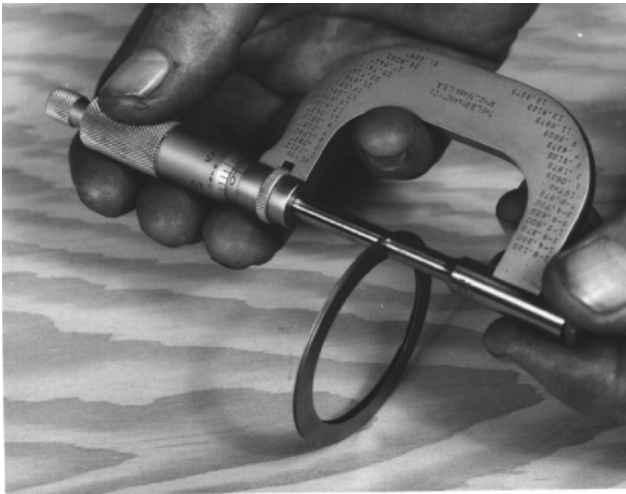

FIGURE 15
15. With a micrometer, FIGURE 15, page 33, measure the thickness of shaft shim sets established in Steps 6 thru 8. Be sure shims are clean of dirt and oil for true measurement.